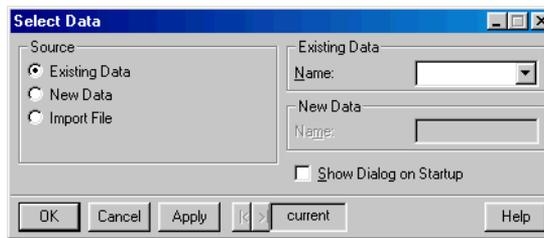

Figure 2.10: *The **Select Data** dialog.*
1. From the main menu, choose **Data ► Select Data**. The **Select Data** dialog opens, as shown in Figure 2.10.